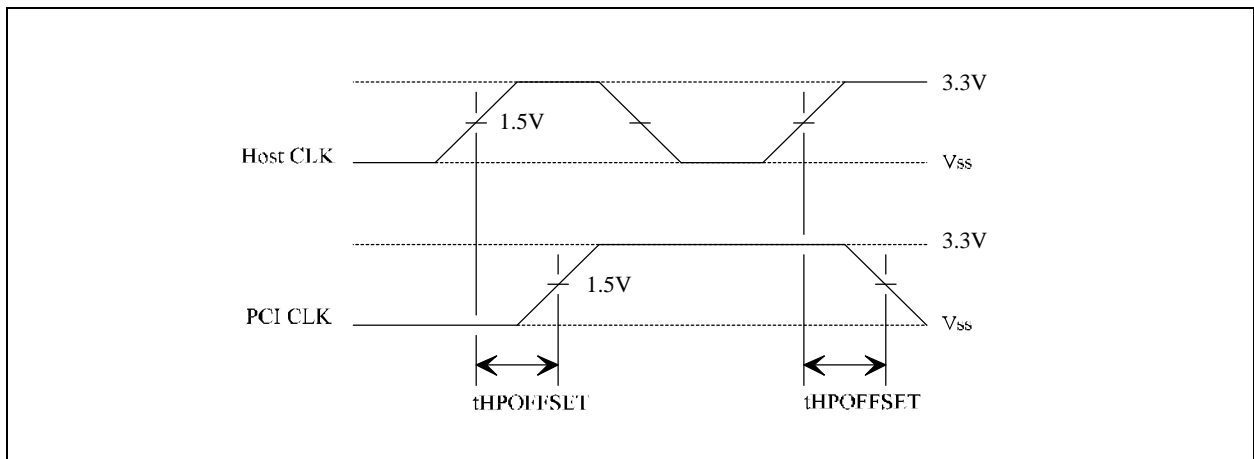

Figure 4-3. Host CLK to PCI CLK Offset
3. The Host CLK must always lead the PCI CLK as shown in Figure 4-3. This must be guaranteed by design under loaded conditions. This is a function of drive strength as well as routing topologies. This is a combined CLK driver requirement and a layout requirement.